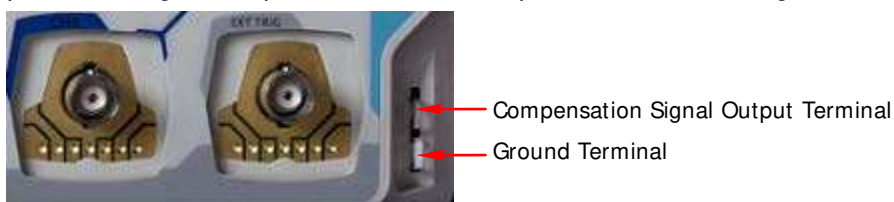

Figure 1-9 To Use the Compensation Signal
2. Connect the ground alligator clip of the probe to the “Ground Terminal” as shown in Figure 1-9.
3. Use the probe to connect the input terminal of CH1 of the oscilloscope and the “Compensation Signal Output Terminal” of the probe as shown in Figure 1-9.